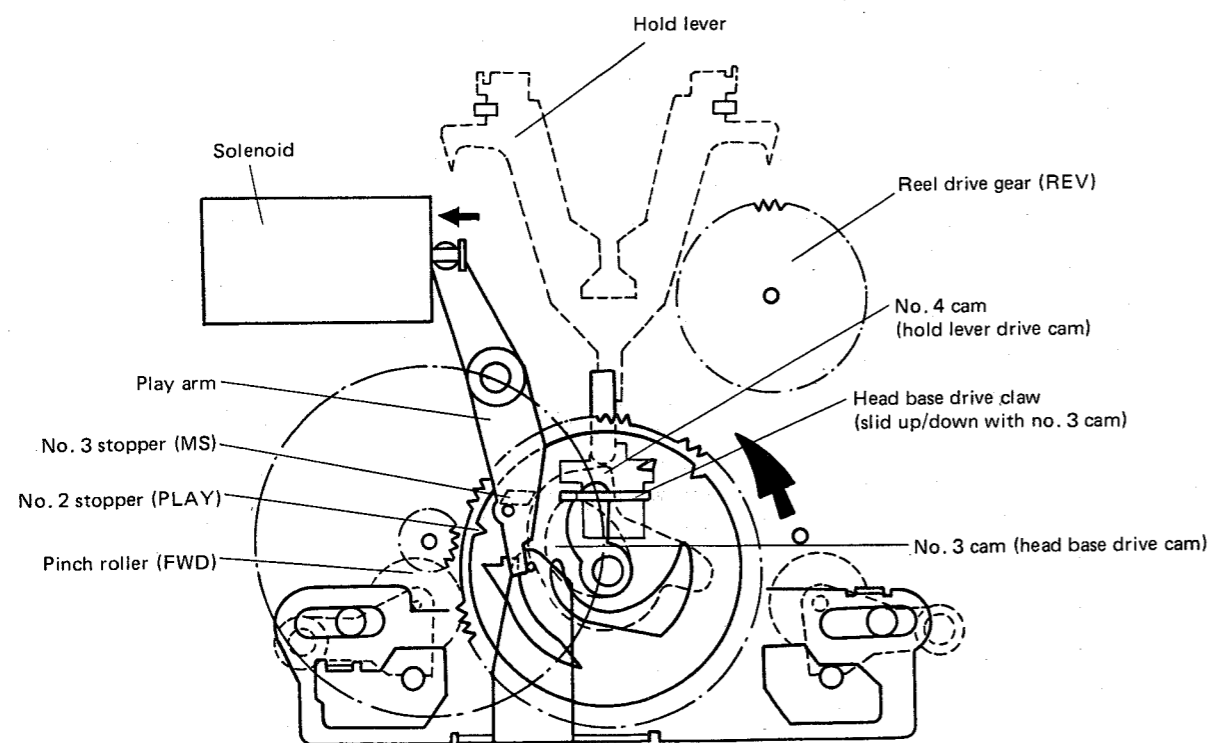

Fig. 1-5 Change from forward playback to music search mode
- (1) When the FF or REW key is pressed during forward or reverse playback mode, the solenoid is activated (current applied continuously during music search mode) and
- (2) The cam gear rotation results in the head base being lowered to the MS position no. 3 cam.
- (3) After the cam gear is rotated through about 20° no. 3 cam gear stopper meets play arm pin, thereby stopping the cam gear to put the deck into music search mode (see Fig. 1-5). In this condition,
- (4) High speed rotation of the reel motor in the forward or reverse direction is commenced approximately 60ms after the solenoid is activated, and as a result of lateral oscillating action of the F/R gear the reel drive gear (FWD or REV) is engaged to commence take-up of the tape.